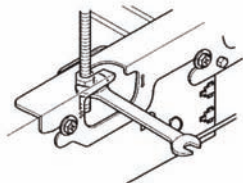

Fig.8
* Insert the spanner from the hanger bracket opening. (Refer to Fig.8)